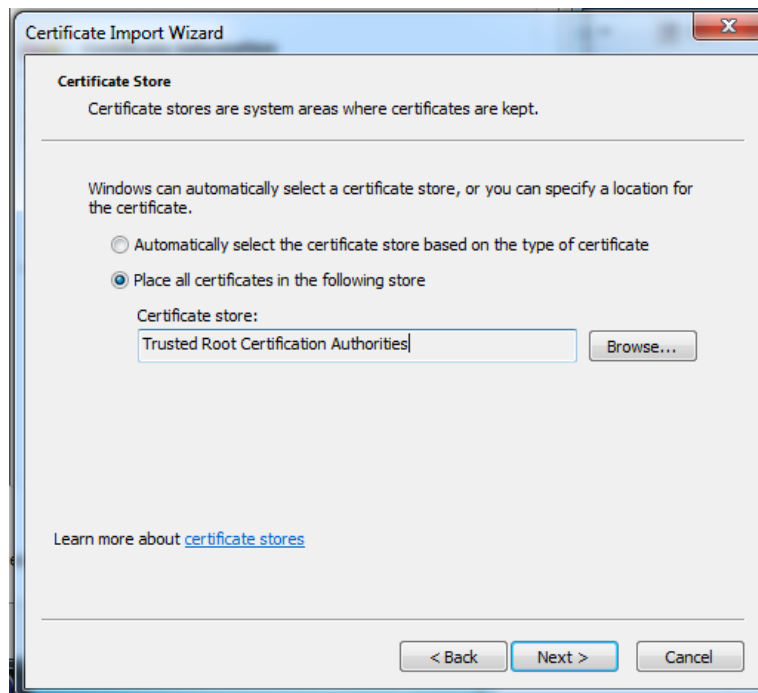

Figure 6-65
Step 3. Click Next, see Figure 6-65.